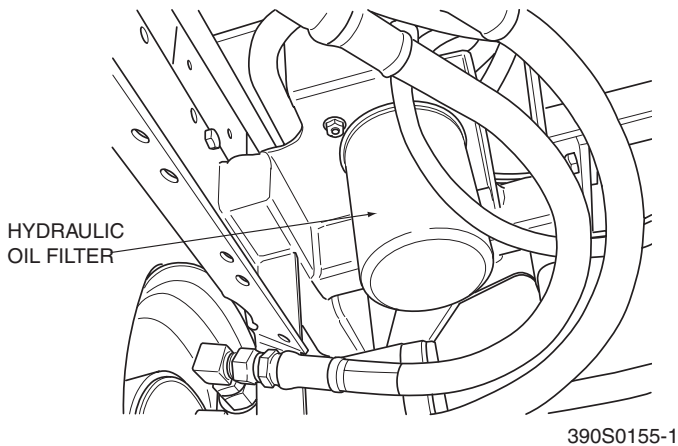

Figure 7-3 Hydraulic Oil Filter
1. Remove the oil filter element (Figure 7-3) and properly discard it. Fill the new filter with clean oil and install the filter. Hand tighten only.